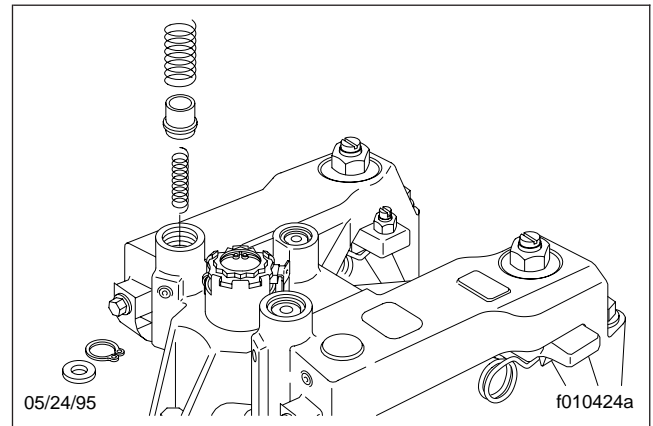

Fig. 2, Remove the Springs and the Collar
7. Slowly remove the cover until the spring pressure is released; then, remove the two control valve springs and the collar. See **Fig. 2**.